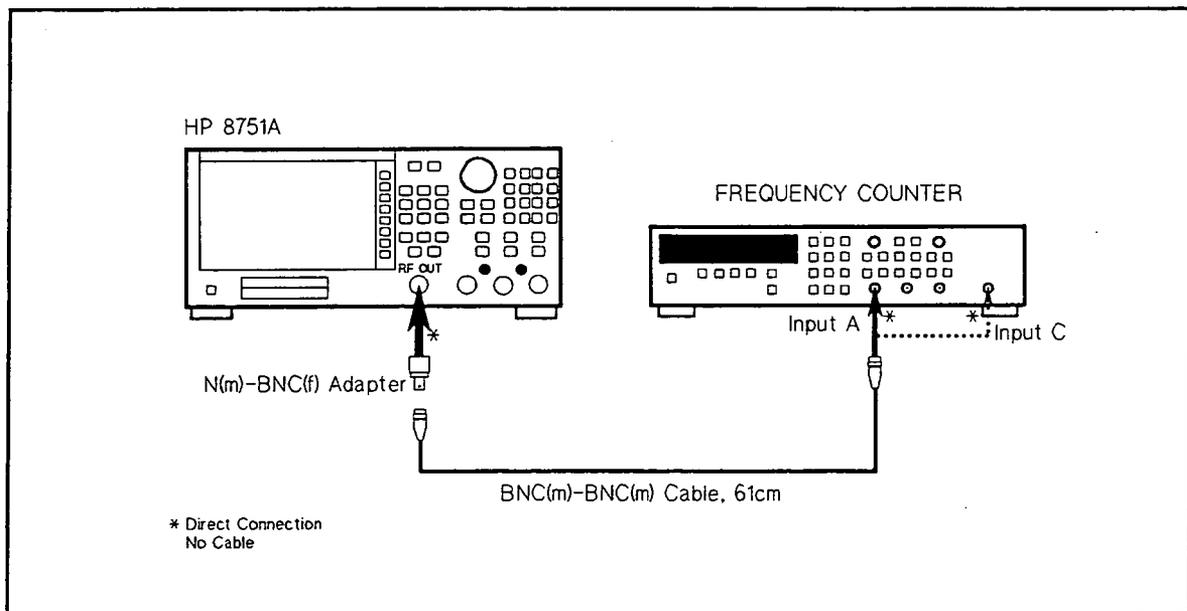

Figure 2-1. Frequency Accuracy Test Setup
1. Connect the BNC(m)-BNC(m) Cable from HP 8751A RF OUT to the Frequency Counter INPUT A as shown in Figure 2-1.